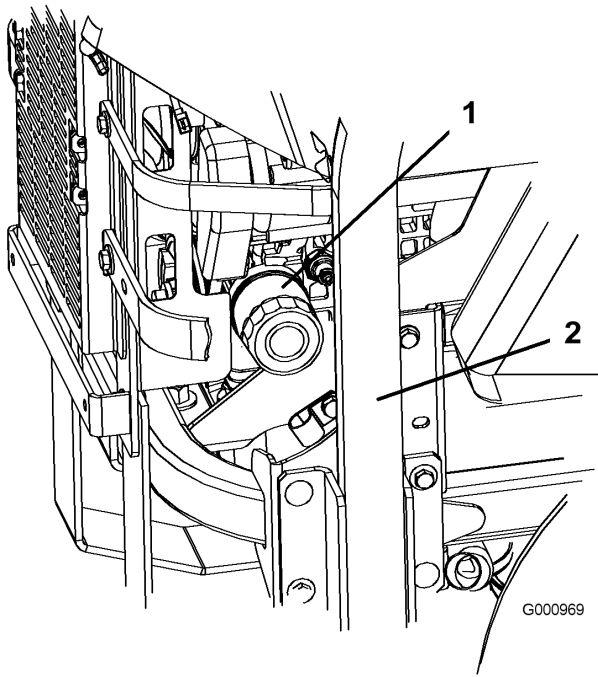
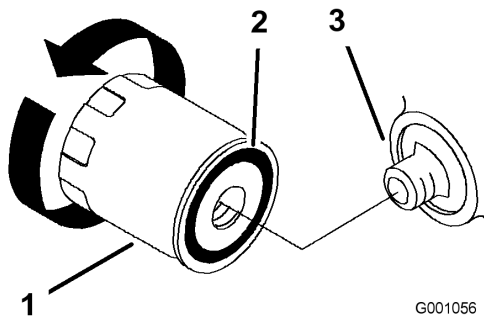

Figure 40
Figure 41
2. Turn the filter counterclockwise to remove it (Figure 40 and Figure 41).